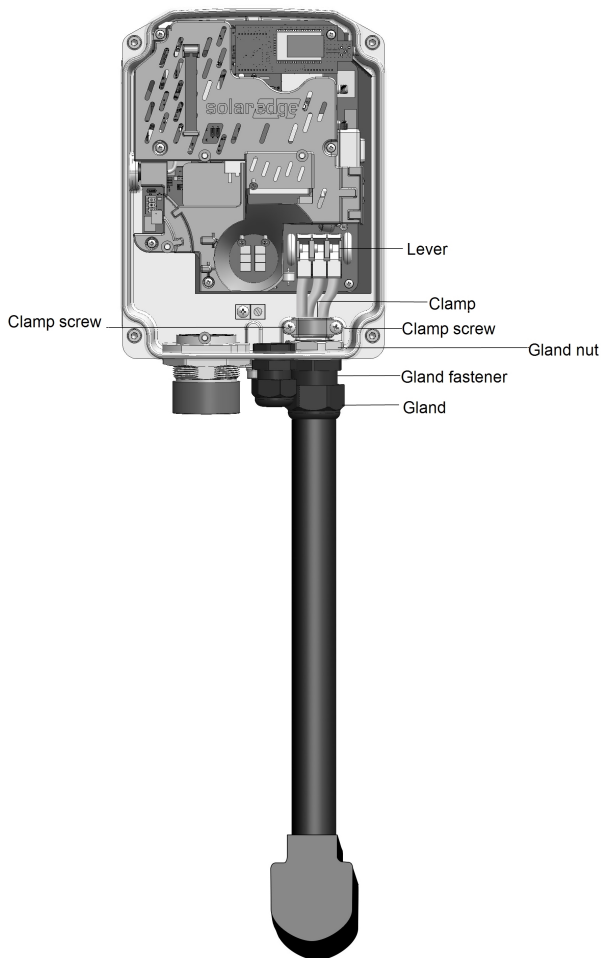

Figure 6: Inside the Smart EV Charger
2. Release the two clamping screws and remove the clamp. See *Figure 6*.
3. Push the terminal blocks levers up to release the G, L1 and L2 wires. See *Figure 6*.
4. Release the gland nut. See *Figure 6*.
5. Pull out the AC Plug cable from the conduit entry. See *Figure 6*.